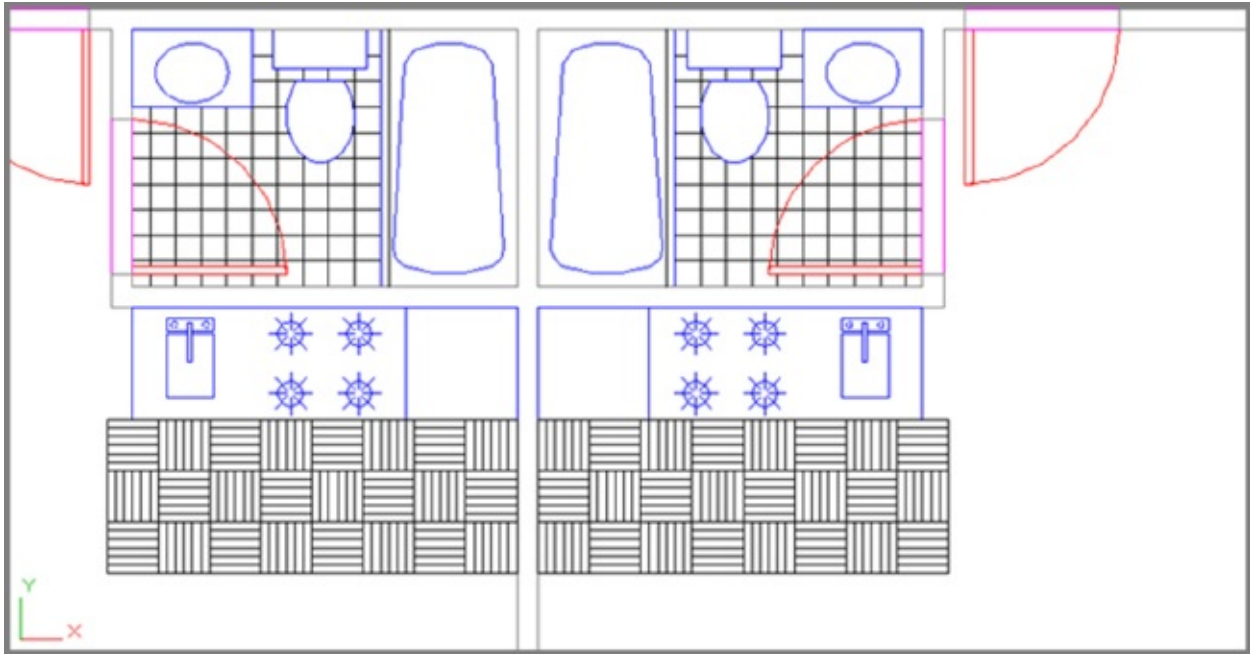

FIGURE 7.12 The Plan drawing with the tile pattern
7. Zoom into one of the units. The floor tile appears in all the units as you drew it in the Unit file (see Figure 7.12).